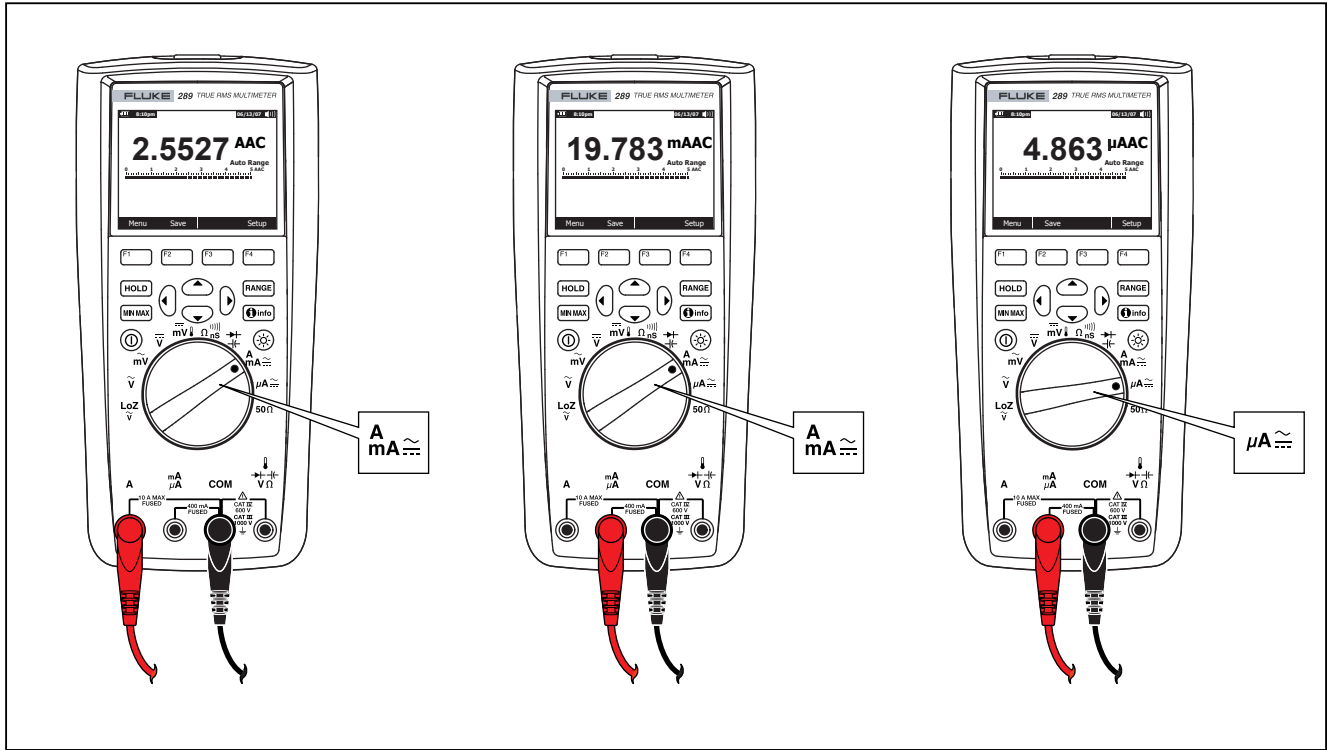

Figure 21. Current Measurement Setup
3. If you are using the A terminal, set the rotary switch to $\text{A}_{\text{MA}} \approx$. If you are using the mA/μA terminal, set the rotary switch to $\mu\text{A} \approx$ for currents below 5000 μA (5 mA), or $\text{mA} \approx$ for currents above 5000 μA. See Figure 21 for test lead connections and function selection. Refer to the "Input Alert Feature" section for information on the alerts the Meter uses when leads are not used correctly for current measurements.